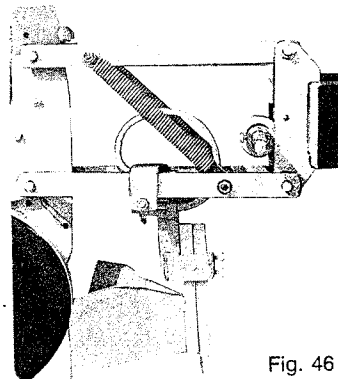

Fig. 46
The function of clod removers (12) is to clear the surface of the soil but not to plow a furrow. One use of the front brace of the clod remover is to slice open hard soil and move stones away from the track of the disc opener. They need to be adjusted accordingly. Using them in stony soils may be a problem because they can cause clogging and blocking. In this case it is better to choose an assembly with a flexible support bracket (fig. 46) which is efficient in difficult soil conditions.